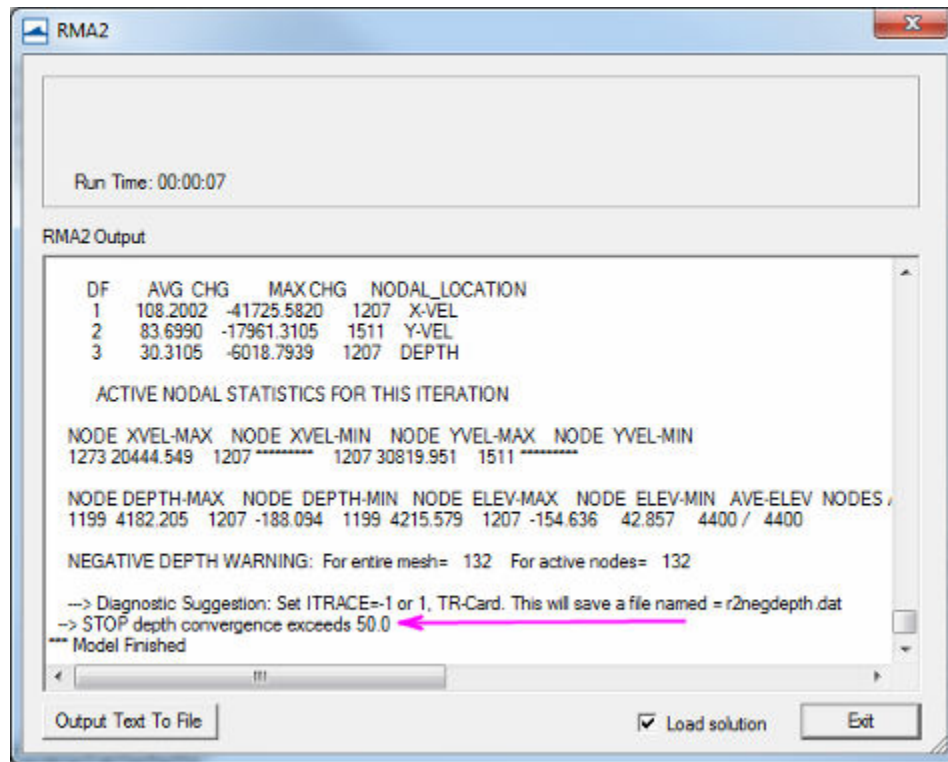

Figure 5. Output from running trib.sim.
*RMA2* will run through four iterations and diverge. At the bottom of the *RMA2* output window is the text “STOP depth convergence exceeds 50.0”, as highlighted in Figure 5. This is how *RMA2* declares that it has not successfully converged.